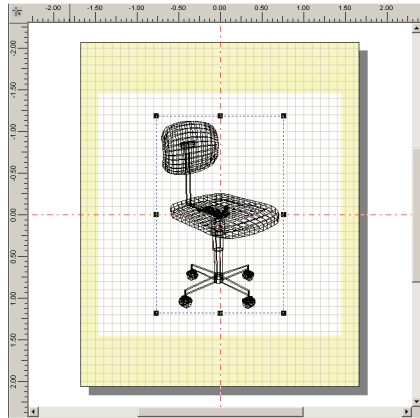

Figure 9-4 Chairbin.dxf
- 5 Select the *Chairbin.dxf* file and click *Open*. *Chairbin.dxf* (Figure 9-4) is a vector graphic illustrating an office chair as a wire-frame line drawing.